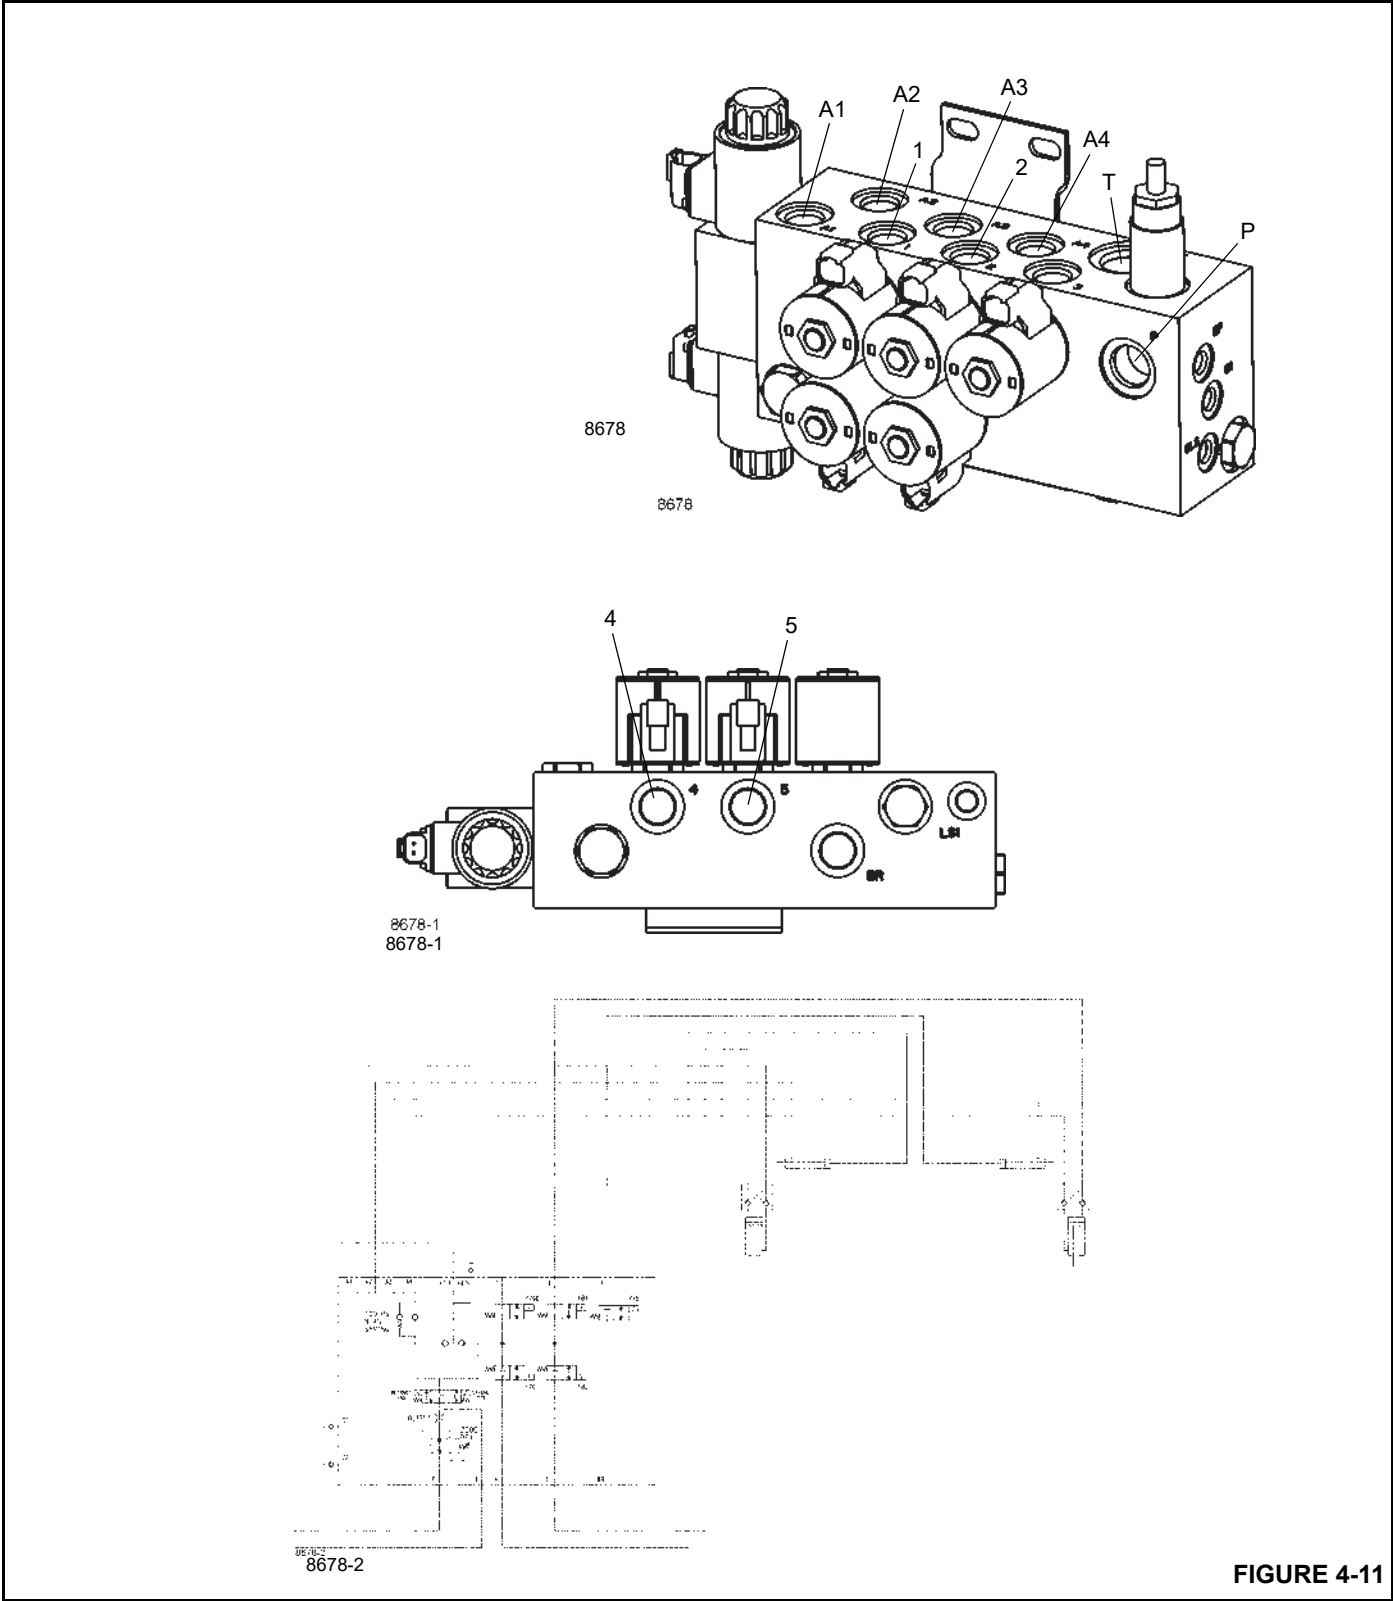

FIGURE 4-11
**Table 4-7: Port Identification Figure 4-11**